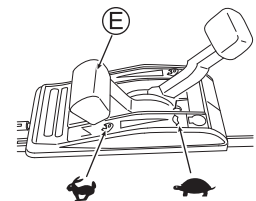

Fig. 14
- Confirm that there is no person behind you when pulling the starter knob (V).
- Securely hold the starter knob (V) when you pull it.
- Return the starter knob (V) slowly.
5. Warm up the machine before use. After the engine has warmed up, start mowing by setting the throttle lever (E) to "I/N". (See Fig. 14)